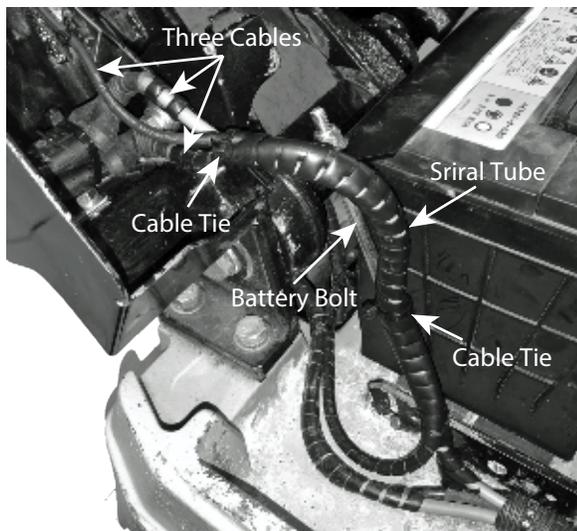

Figure 51. Secure Three Cables
- Secure the three cables with cable ties and wrap the additional spiral tube (P/N 959021813) around them. See Figure 51.